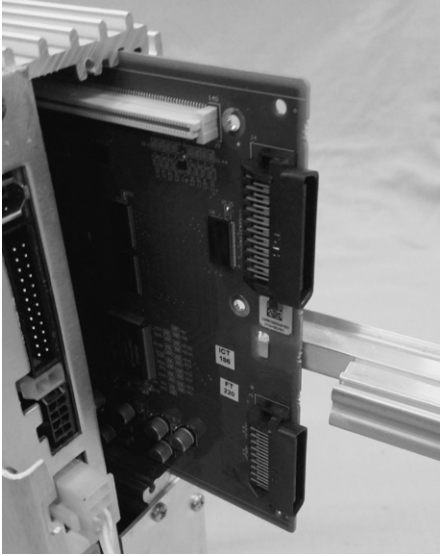
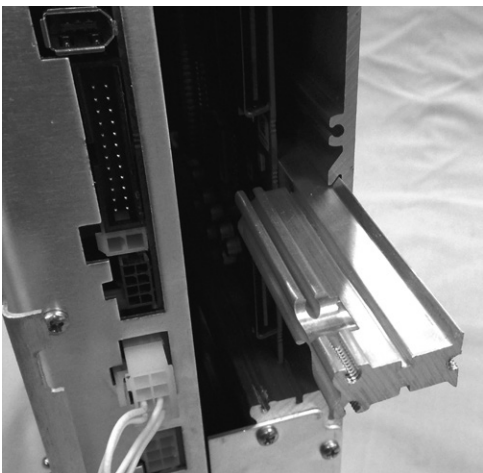

Figure 6. Hooking the support bar nib into the hole in the base circuit board
Figure 7. Pushing the base circuit board into the guide grooves
- Hook the support bar nib into the hole in the base circuit board (Figure 6) and begin to push the circuit board into the slots. While pushing the base circuit board in, line up the support bar into the guide grooves in the back of the communications module slots. (Figure 7).